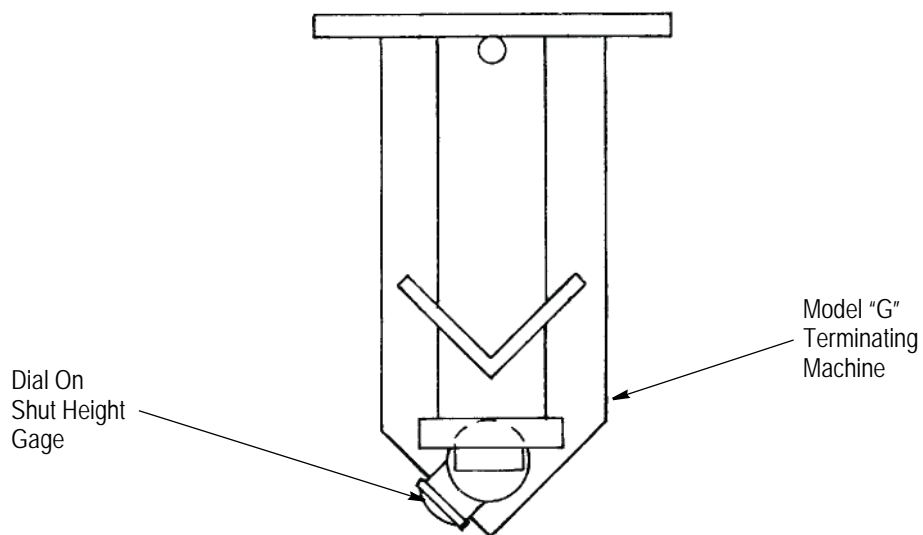

Figure 18
6.1. Measuring the Shut Height (Figure 18)